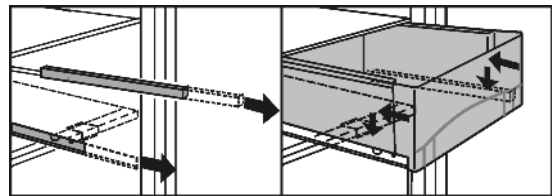

Fig. 34
- ▶ To remove drawer cover: once the drawers have been removed, carefully pull the drawer cover *Fig. 34 (2)* with humidity control forwards and lower it for removal.